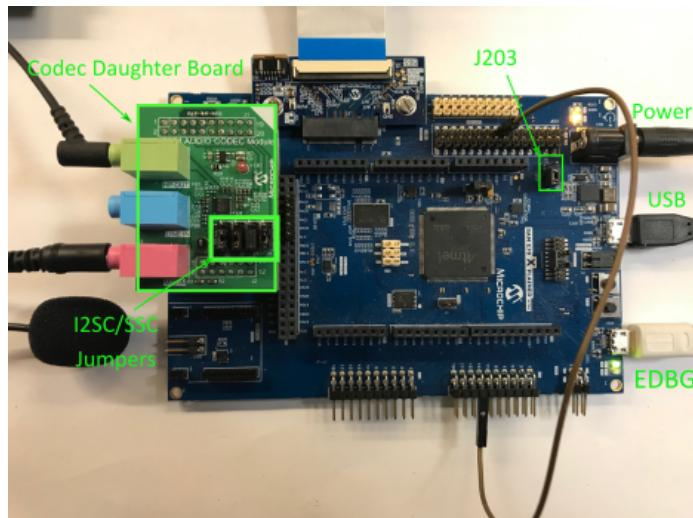

Figure 1. WM8904 Audio Codec Daughter Board on SAM E70 Xplained Ultra board. Headphone Out Jack is green.
1. Attach the WM8904 Daughter Board to the X32 connector. Connect headphones to the HP OUT (green) jack of the WM8904 Audio Codec Daughter Board (see **Figure 1**).